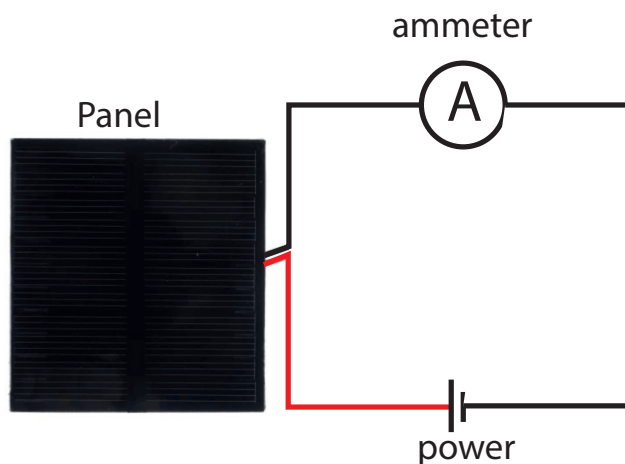

Figure 4: Current–Voltage measurement circuit. The Keithley 2110 multimeter can be used to measure current.
This main objective of this experiment is to accurately determine the efficiency $\eta = P_{\text{out}}/P_{\text{in}}$ of a solar cell where P_{in} is the input power from irradiation and P_{out} is the maximum output power. You should therefore measure both P_{in} and P_{out} accurately. The input P_{in} can be measured using a light-sensing device (e.g. LDR or lux metre), and the output P_{out} can be directly inferred from the I-V curve. To this end, you can use your Arduino kit box, Keithley 3 channel power supply and Keithley multimeter to construct a circuit that measures both voltages and current (see Fig. 4).
1. Construct the circuit in Fig. 4 using the *1N4148 Diode* which you have in your Arduino kit. You can use the Keithley 2231A-30-3 Triple Channel DC Power Supply and Keithley 2110 multimeter to source voltage and measure current, respectively.
1. Design and construct the solar cell I-V measurement set-up following the circuit in Fig. 4.